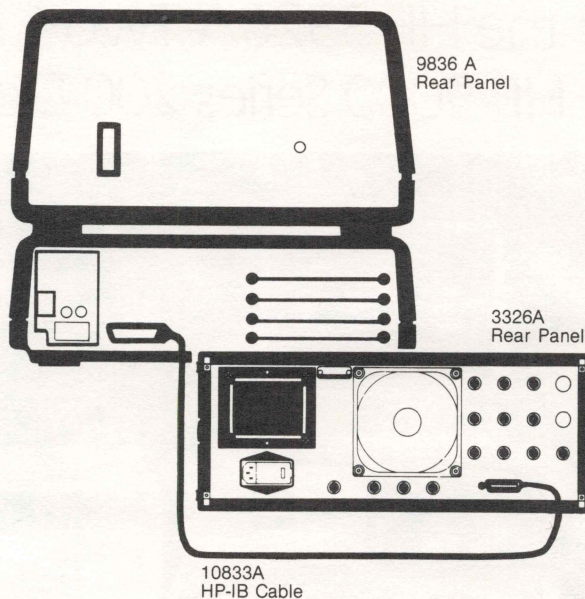

Figure 1. System HP-IB Connection
1. As shown in Figure 1, use the 10833 HP-IB cable to connect the 3326A to the built-in HP-IB interface of the 9836A.